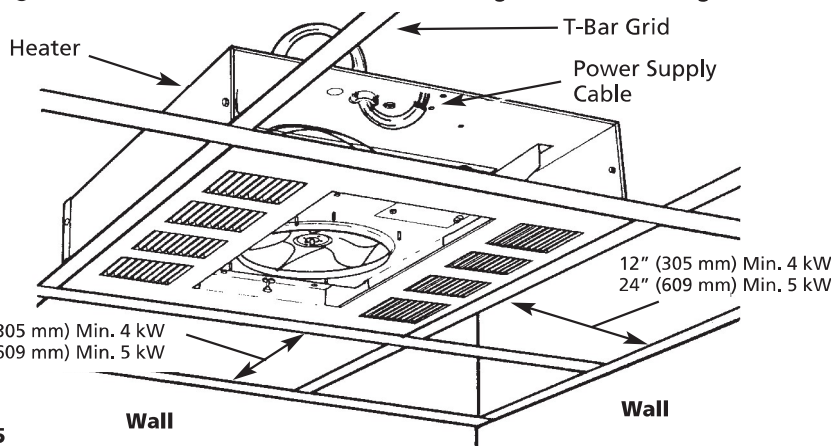

Figure 5
14. Position the heater in the T-bar grid (Figure 5) and secure as required.